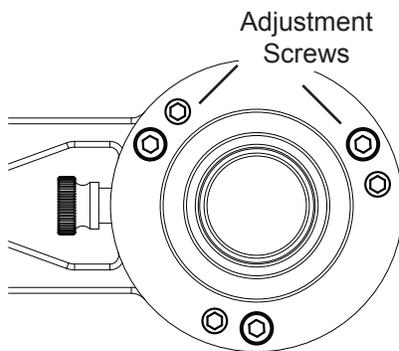

Fig. 3.4b
5. If the object is off the center, adjust the 6 adjust-ment screws (Fig. 3.4b) on the polar scope kit with a 2.5mm Allen key to eliminate the offset by half. When making the adjustment, loosen one screw for 1/4 turn each time, and then tighten the other two screws.